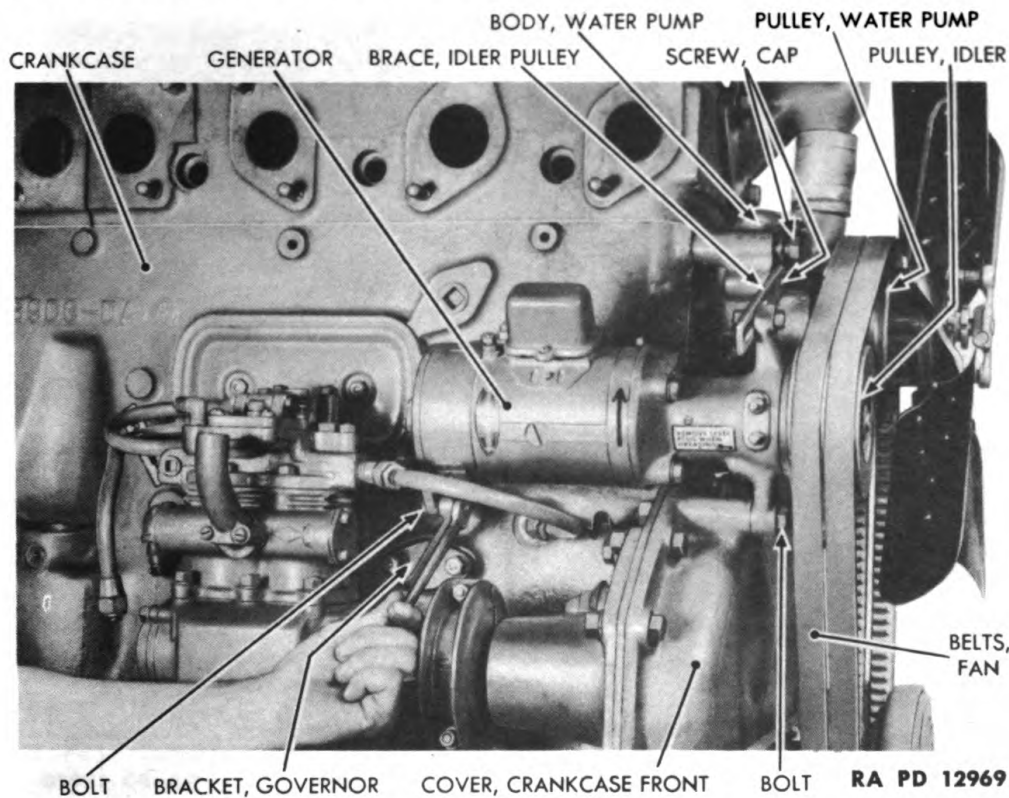

Figure 174—Generator Installation
(4) **PLACE FAN BELTS IN POSITION (fig. 174).** Lift fan belts over fans onto water pump pulley and then place lower ends of fan belts in position on fan drive pulley.
(fig. 174).